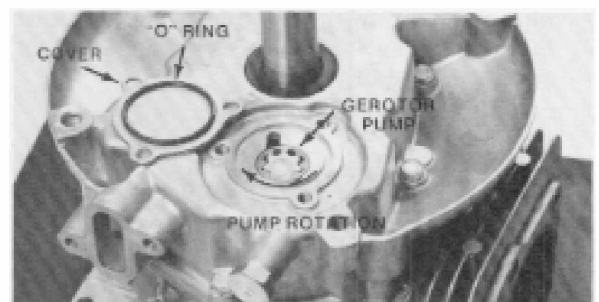

Figure 4-19
2. Remove the oil pump cover and examine the condition of the "O" ring. The oil pump is a two-piece gerotor type oil pump driven by the camshaft. See Fig. 4-19.